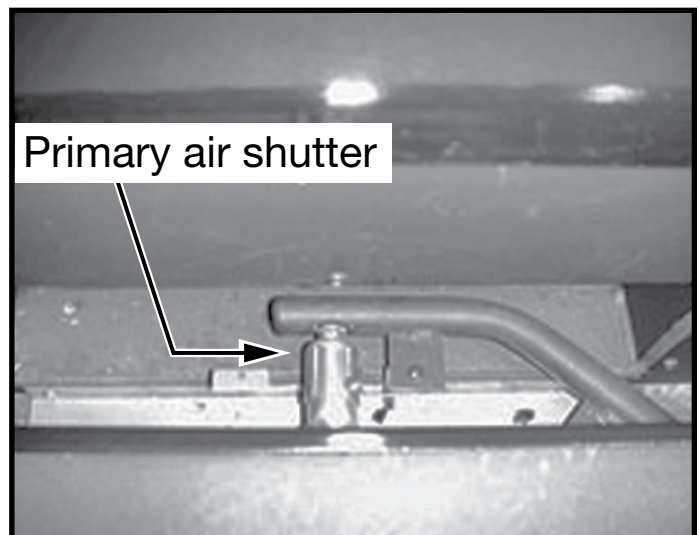

Figure 18: Primary air shutter.
3. Fully open the primary air shutter (Figure 18).